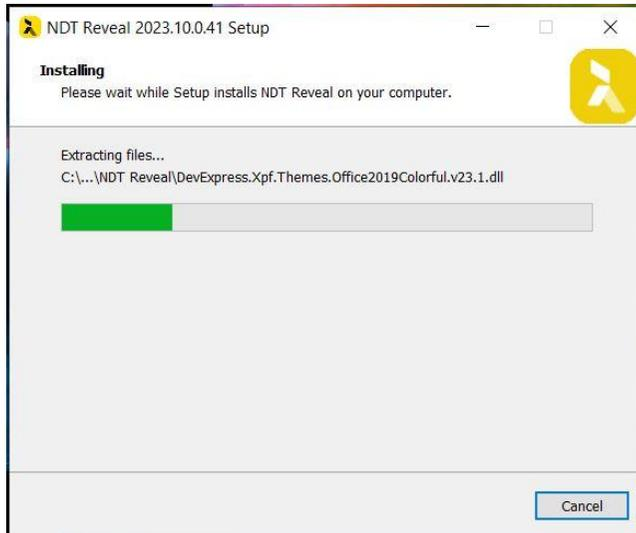

Fig. 7 Installation Progress bar
7. Wait for the installation progress bar to complete (Fig. 7),